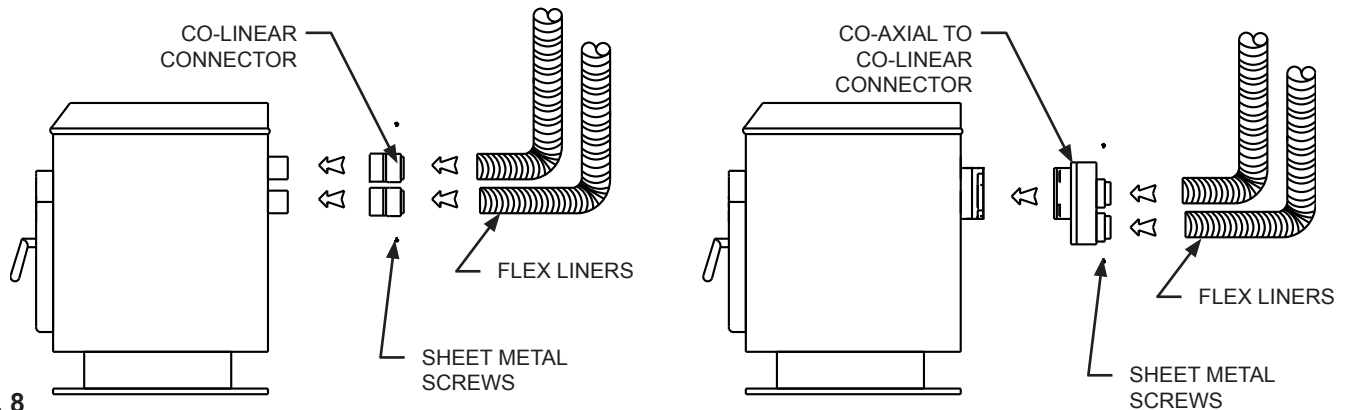

FIG. 8
Step 9. Depending upon the type of connection that your appliance has, it will require either the Co-Linear Flex Connectors or a Co-Axial to Co-linear Connector (See FIG. 8).